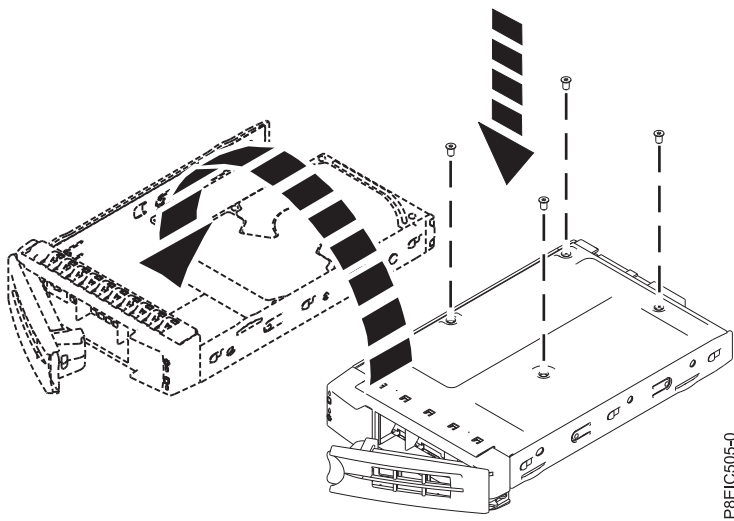

Figure 11. Mounting the 2.5 inch drive in the tray
- A 2.5 inch drive must be positioned at the rear of the tray. While you hold both the drive and the tray, turn the tray over. Fasten the drive to the bottom of the tray with four screws, as shown in Figure 11.